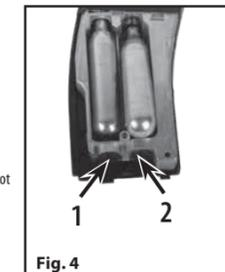

Fig. 4
- Insert a two (2) new CO₂ cartridges into the airgun, small neck first, pointing toward the piercing assembly (Fig. 4).